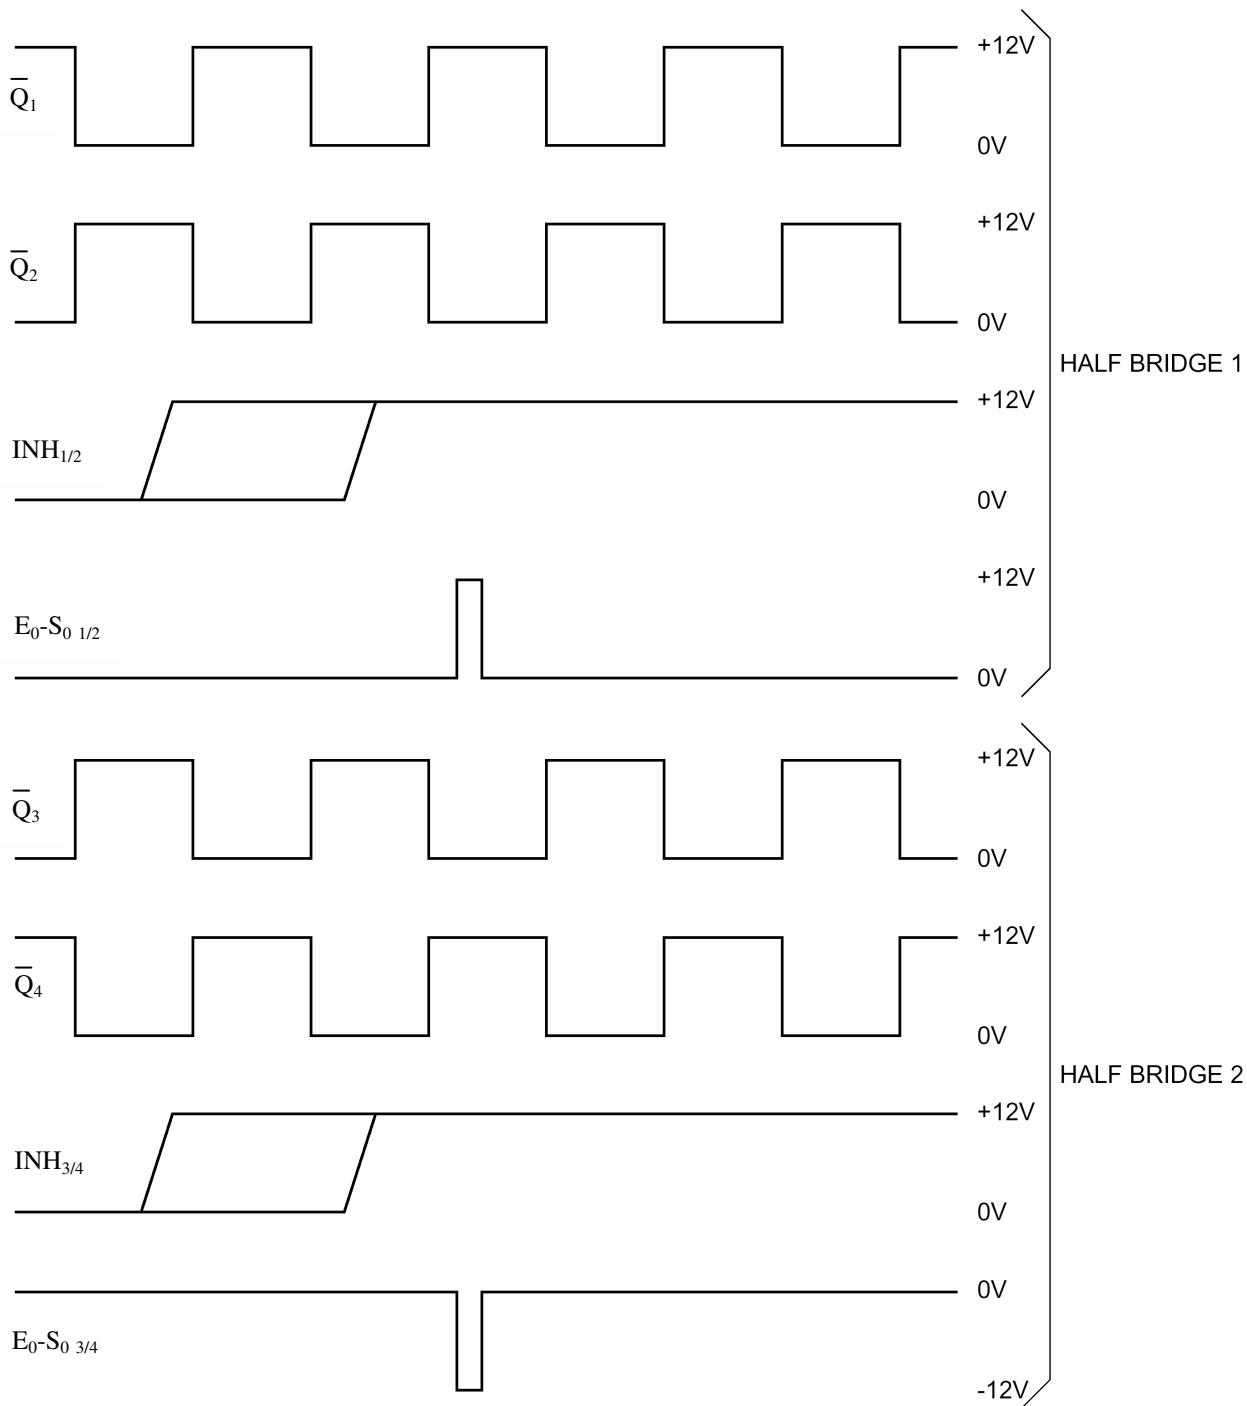

Figure 11: example of input signal for 4 x APTLG210U120T modules connected in a Full Bridge configuration
- The startup signal, between  $E_0$ - $S_0$ , may also be implemented by a negative pulse synchronized with input signal Q being low and forcing the lower switch to turn ON. Examples of both startup sequences being used in the startup of a full – bridge configuration is shown in figure 11.